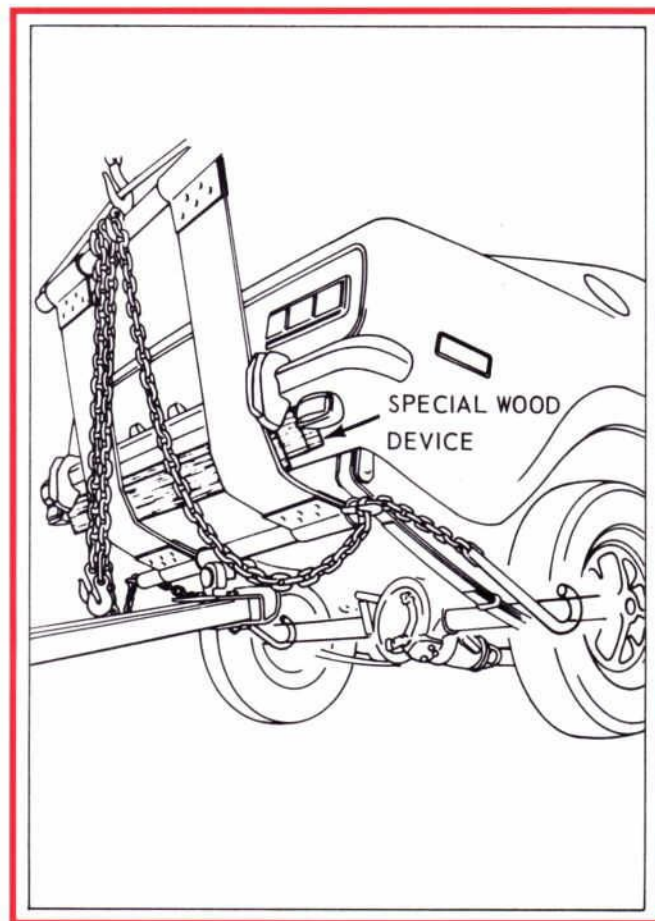

Figure 7—The Capri Supported Properly for Safe Towing
3. Raise the sling until the rear tires are approximately 14" off the ground. This will assure that the sling does not contact the rear bumper. See Figure 7.